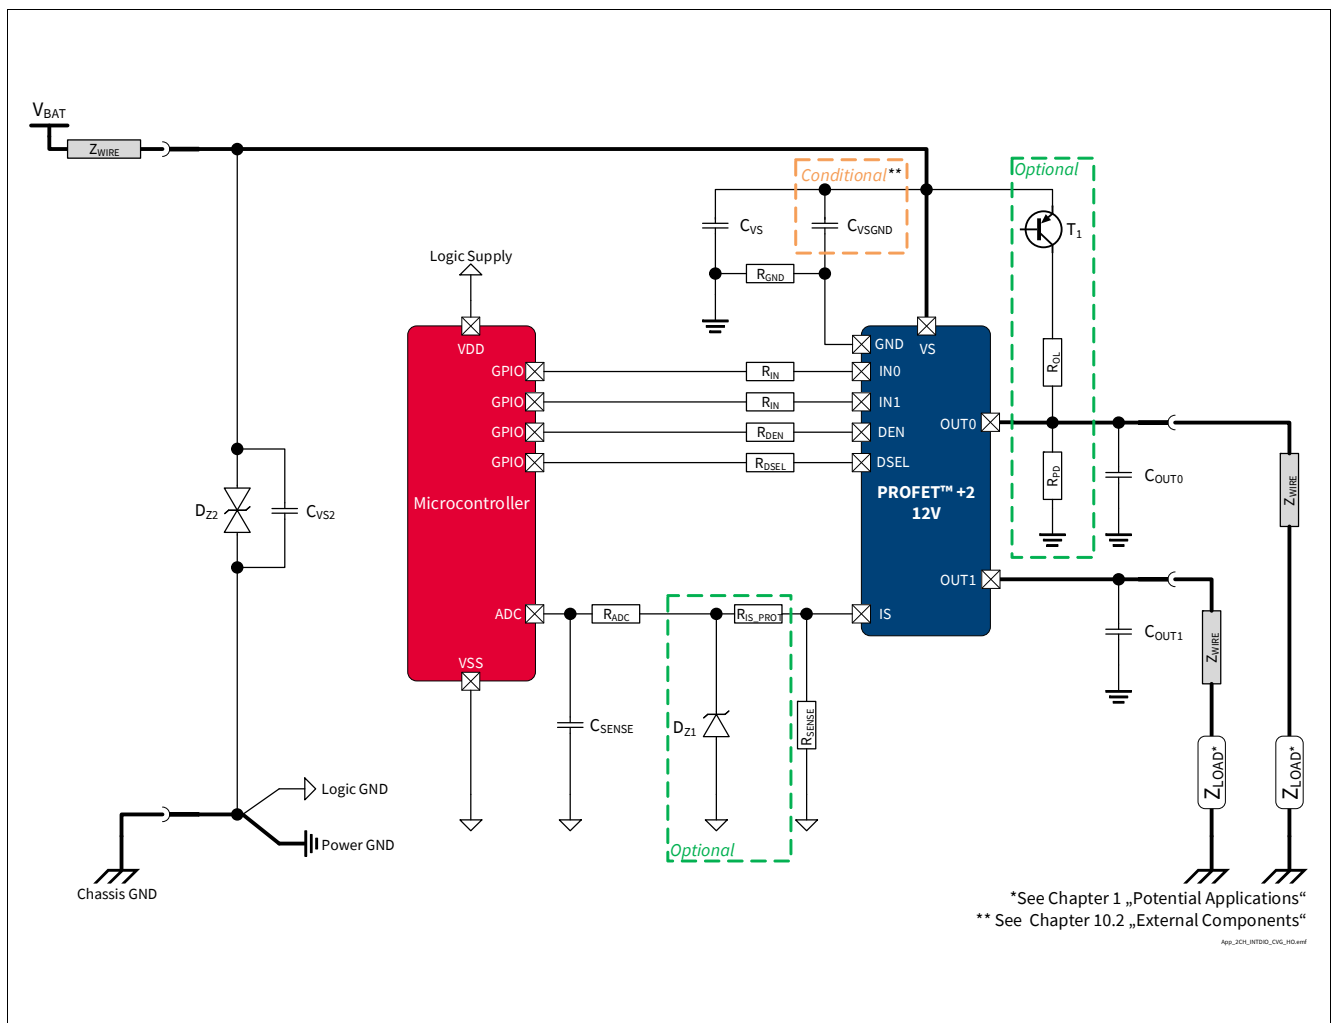

Figure 42 BTS7200-2EPA Application Diagram
1.03, 2019-10-15	<p>P_8.7.9.1, P_8.7.9.7, P_8.7.9.8 updated (added in Note or Test Condition: link to Figure 25)</p> <p>P_7.5.9.4, P_7.5.9.5 updated (added in Note or Test Condition: DEN = “low”; link to Figure 19)</p> <p>P_7.5.9.12 updated (added in Note or Test Condition: See Figure 21; deleted unnecessary space in Symbol: $dV_{OUT} / dt \rightarrow dV_{OUT} / dt$)</p> <p>P_8.7.9.6 updated (added in Note or Test Condition: see Figure 26)</p> <p>P_9.7.9.1 updated (added in Note or Test Condition: See Figure 33)</p> <p>P_9.7.9.5 updated (Min./Typ./Max.: -45%/670/+45% → -25.0%/665/+25.0%)</p> <p>P_9.7.9.6 updated (Min./Typ./Max.: -36%/670/+36% → -24.0%/665/+24.0%)</p> <p>P_9.7.9.8 updated (Min./Typ./Max.: -30%/670/+30% → -22.5%/665/+22.5%)</p> <p>P_9.7.9.12 updated (Min./Typ./Max.: -14%/670/+14% → -11.0%/665/+11.0%)</p> <p>P_9.7.9.13 updated (Min./Typ./Max.: -11%/670/+11% → -8.5%/665/+8.5%)</p> <p>P_9.7.9.15 updated (Min./Max.: -6%/+6% → -6.0%/+6.0%)</p> <p>P_9.7.9.17 updated (Min./Max.: -5%/+5% → -5.0%/+5.0%)</p> <p>P_7.5.9.11 updated (added in Note or Test Condition: See Figure 19)</p> <p>Figure 1, Figure 42 updated</p> <p>Chapter 1 updated (or LED equivalent → or equivalent electronic loads (e.g. LED modules))</p> <p>P_4.3.0.7 added</p> <p>Table 24 updated</p> <p>Chapter 5.1 updated (added: see Chapter 10 for the complete application setup overview)</p>